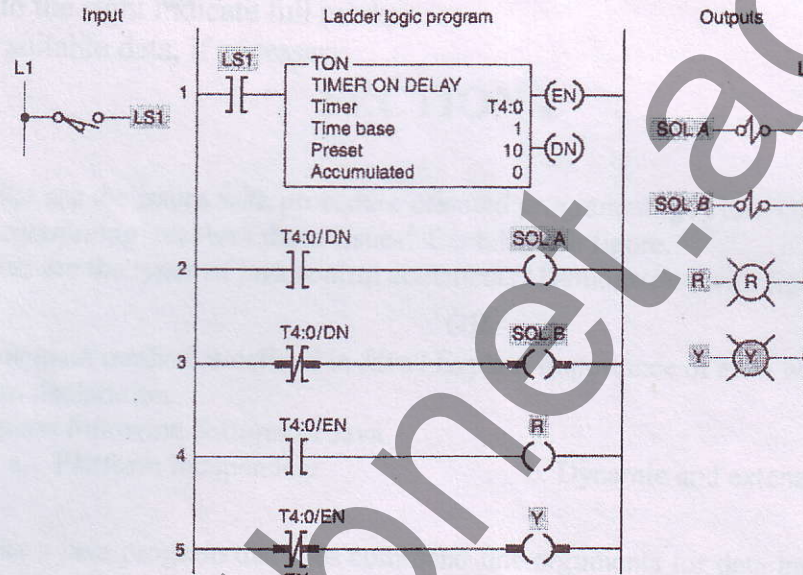

Figure 1(Que 5(A))
- (A)** Write a program for the following: The temperature reading from a thermocouple is to be read and stored in a memory location every 5 minutes for 4 hours. The temperature reading is brought in continuously and stored in address N7:150. File #7:200 is to contain the data from the last full 4-hour period. 7
- (B)** List two common applications for counters. What determines the maximum speed of transitions that a PLC counter can count? Why? Describe the basic programming process involved in the cascading of two counters with example. 5
- Que-5 (A)** Study the ladder logic program in Figure 1 and answer the questions that follow: 7
- (B)** What is the purpose of the label instruction in the jump-to-label instruction pair? When the jump-to-label instruction is executed, in what way are the jumped rungs affected? Explain with example. 4